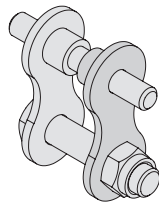
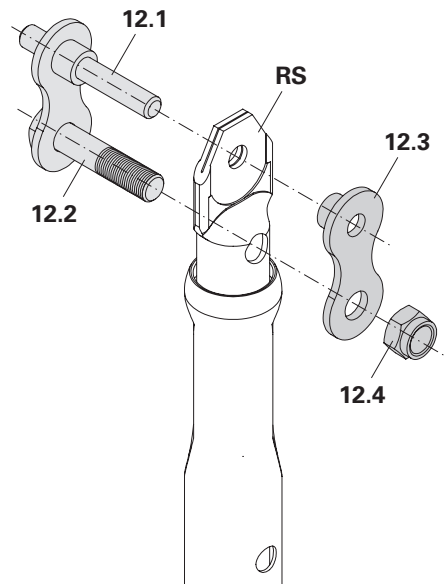

Fig. A702
Fig. A703a
1. Take the Adaptor Quick Connector RS apart (**12**). (Fig. A702 + Fig. A703a)
4. a nut (**12.4**) onto the threaded bolt (**12.2**). (Fig. A703a)